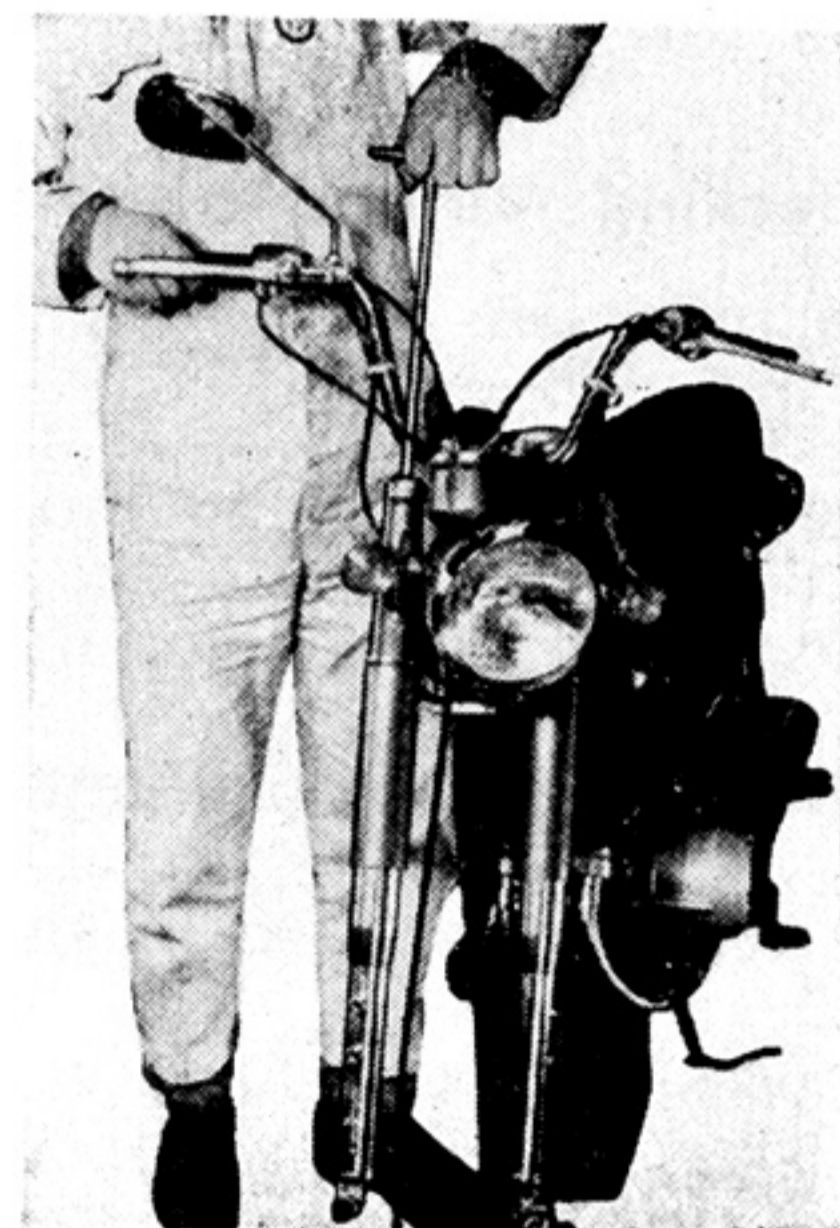

Fig. 4-5-7
- 1) Pull the front fork upward by using the front fork puller, and tighten the underbracket clamping bolt. (Fig. 4-5-7)